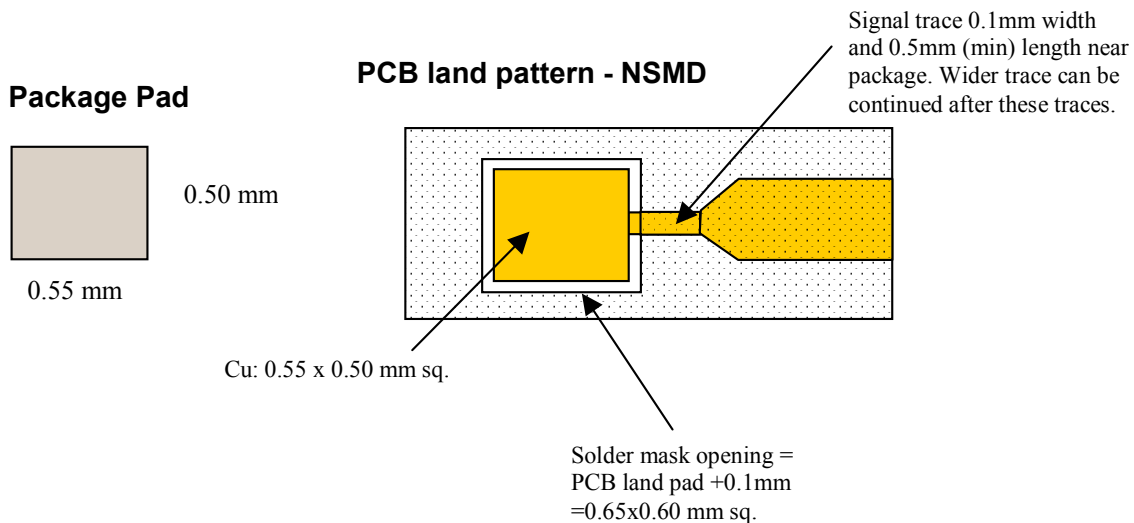

Figure 7. NSMD Solder Mask Design Guidelines
1. NSMD (Non Solder Mask Defined) is shown in Figure 7.
min. 0.5mm length for all PCB land pad near package are recommended as shown in Figure 7 and Figure 8. Wider trace can be continued after the 0.5mm zone.